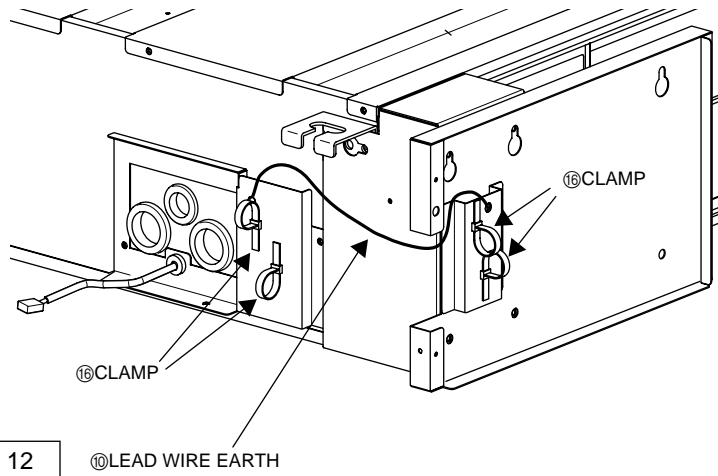

Fig. 12
(2) Install ⑩ LEAD WIRE EARTH and
⑯ CLAMP to the unit. (Fig. 12)